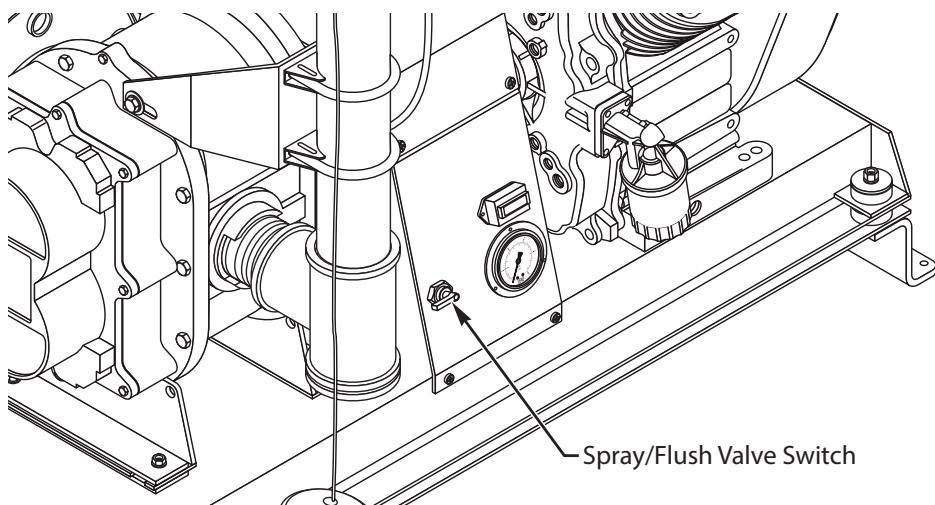

Figure 8 - Spray/Flush Valve
connects the flush tank to the nozzle. When the Spray switch is turned on, either the insecticide or flush solution will be sprayed from the nozzle. Reference Figure 8.
2. Set the Spray/Flush valve located on the gauge panel to SPRAY. Reference Figure 8 on page 14.
valve to SPRAY. Reference Figure 8. On the Remote Control Box, move the spray switch to ON position. Reference Figure 4 on page 9.